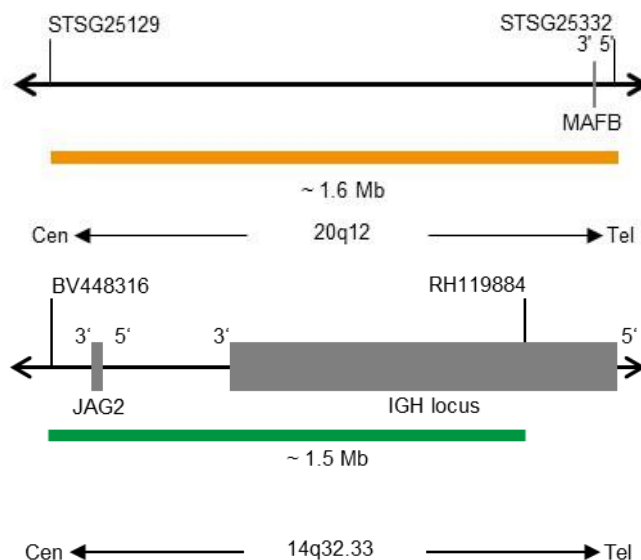

Fig. 1: Top: SPEC MAFB Probe map; Bottom: SPEC IGH Probe map (not to scale)
- ZyOrange (excitation 547 nm/emission 572 nm) labeled polynucleotides (~6.0 ng/μl), which target sequences mapping in 20q12\* (chr20:37,782,012-39,385,613) harboring the MAFB gene region (see Fig. 1).
- ZyGreen (excitation 503 nm/emission 528 nm) labeled polynucleotides (~12.0 ng/μl), which target sequences mapping in 14q32.33\* (chr14:105,462,169-106,995,000) harboring the IGH locus (see Fig. 1).